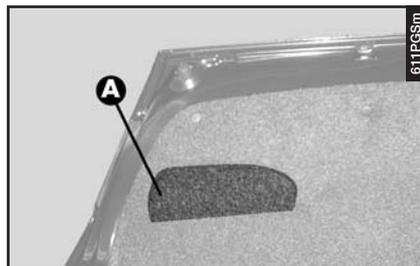
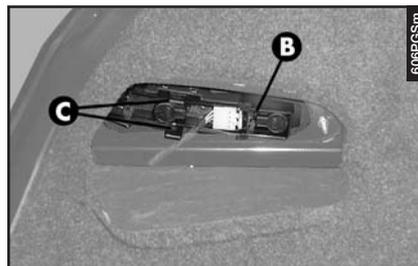

fig. 56
fig. 57
– Lower the lid (**A-fig. 56**) of the boot trim corresponding with the light concerned and remove the bulb holder unit (**B-fig. 57**) releasing the retainer catch (**C**).
– Re-insert the bulb holder unit fastening it correctly in place using the retainer catches (**C-fig. 57**).